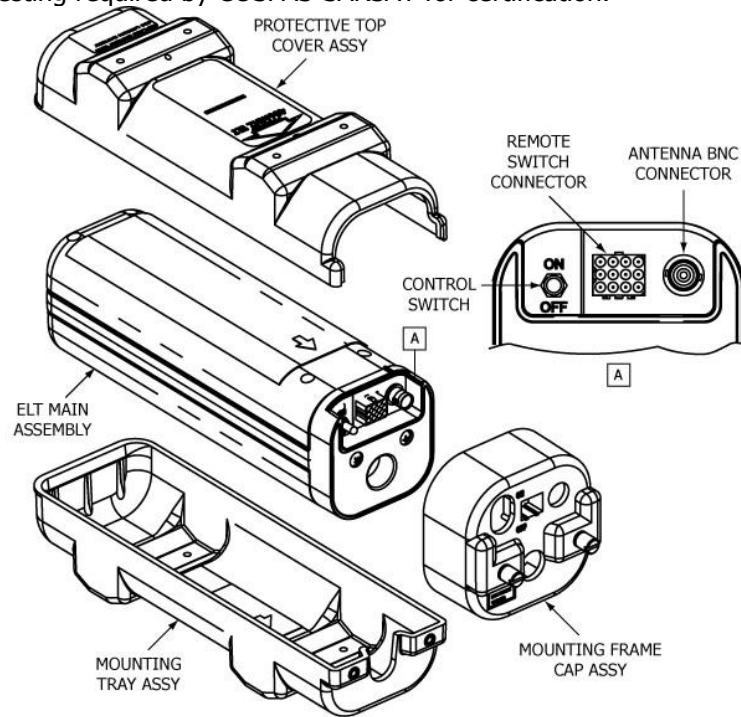

Figure 2 C406-1 Series ELT and Mounting Frame Assembly
- 1) The C406-1 Series ELT main assembly is housed in a high impact, fire resistant, polycarbonate plastic case, which is enclosed in a protective mounting frame assembly made of similar material. See Figure 2.